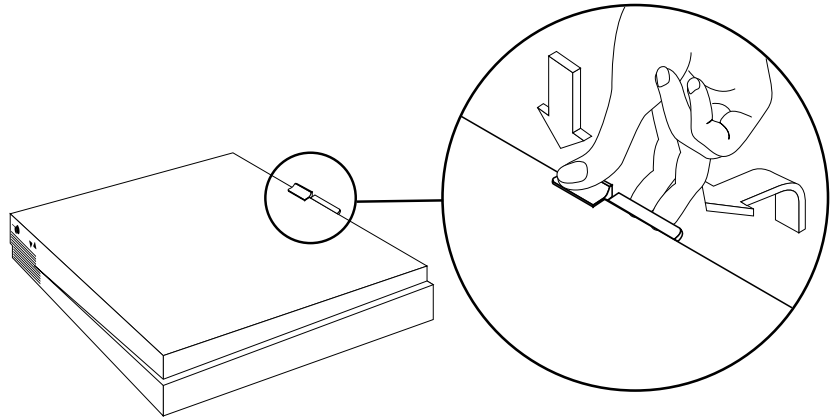

Figure 4-2 Removing the Indy chassis top cover
2. Facing the front of the Indy workstation, place your right thumb on the small channel at the back of the cover, and your second and third fingers under the finger ledge, as shown in Figure 4-2.